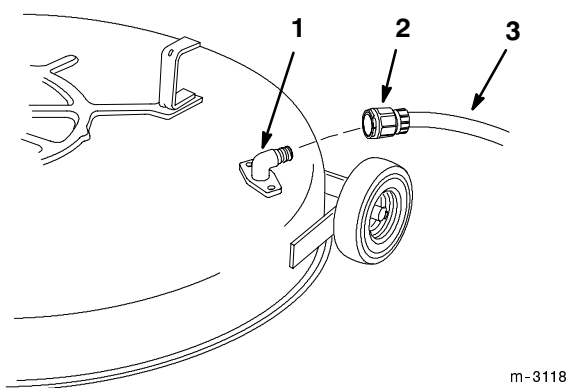

Figure 54
2. Attach hose coupling to the end of the mower washout fitting, turn water on high (Fig. 54).